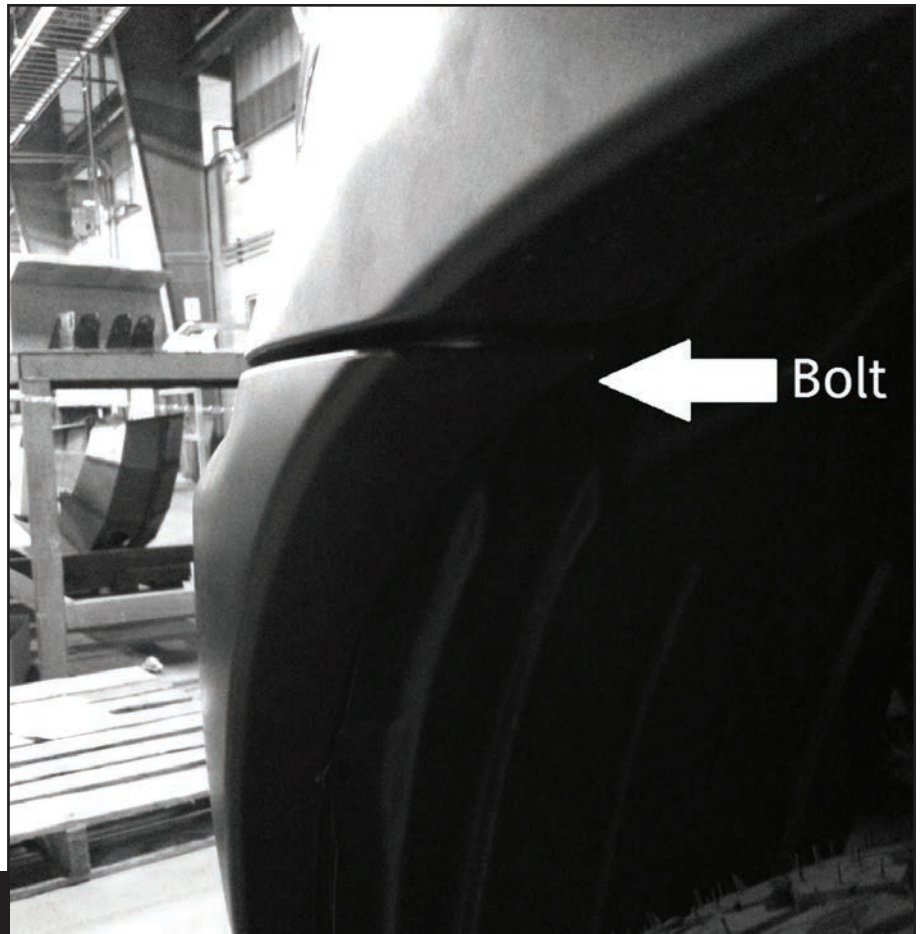

Fig 4
4. Remove and discard (2) bolts attaching fender to bumper cover inside the upper wheel well area (**Fig 4**).